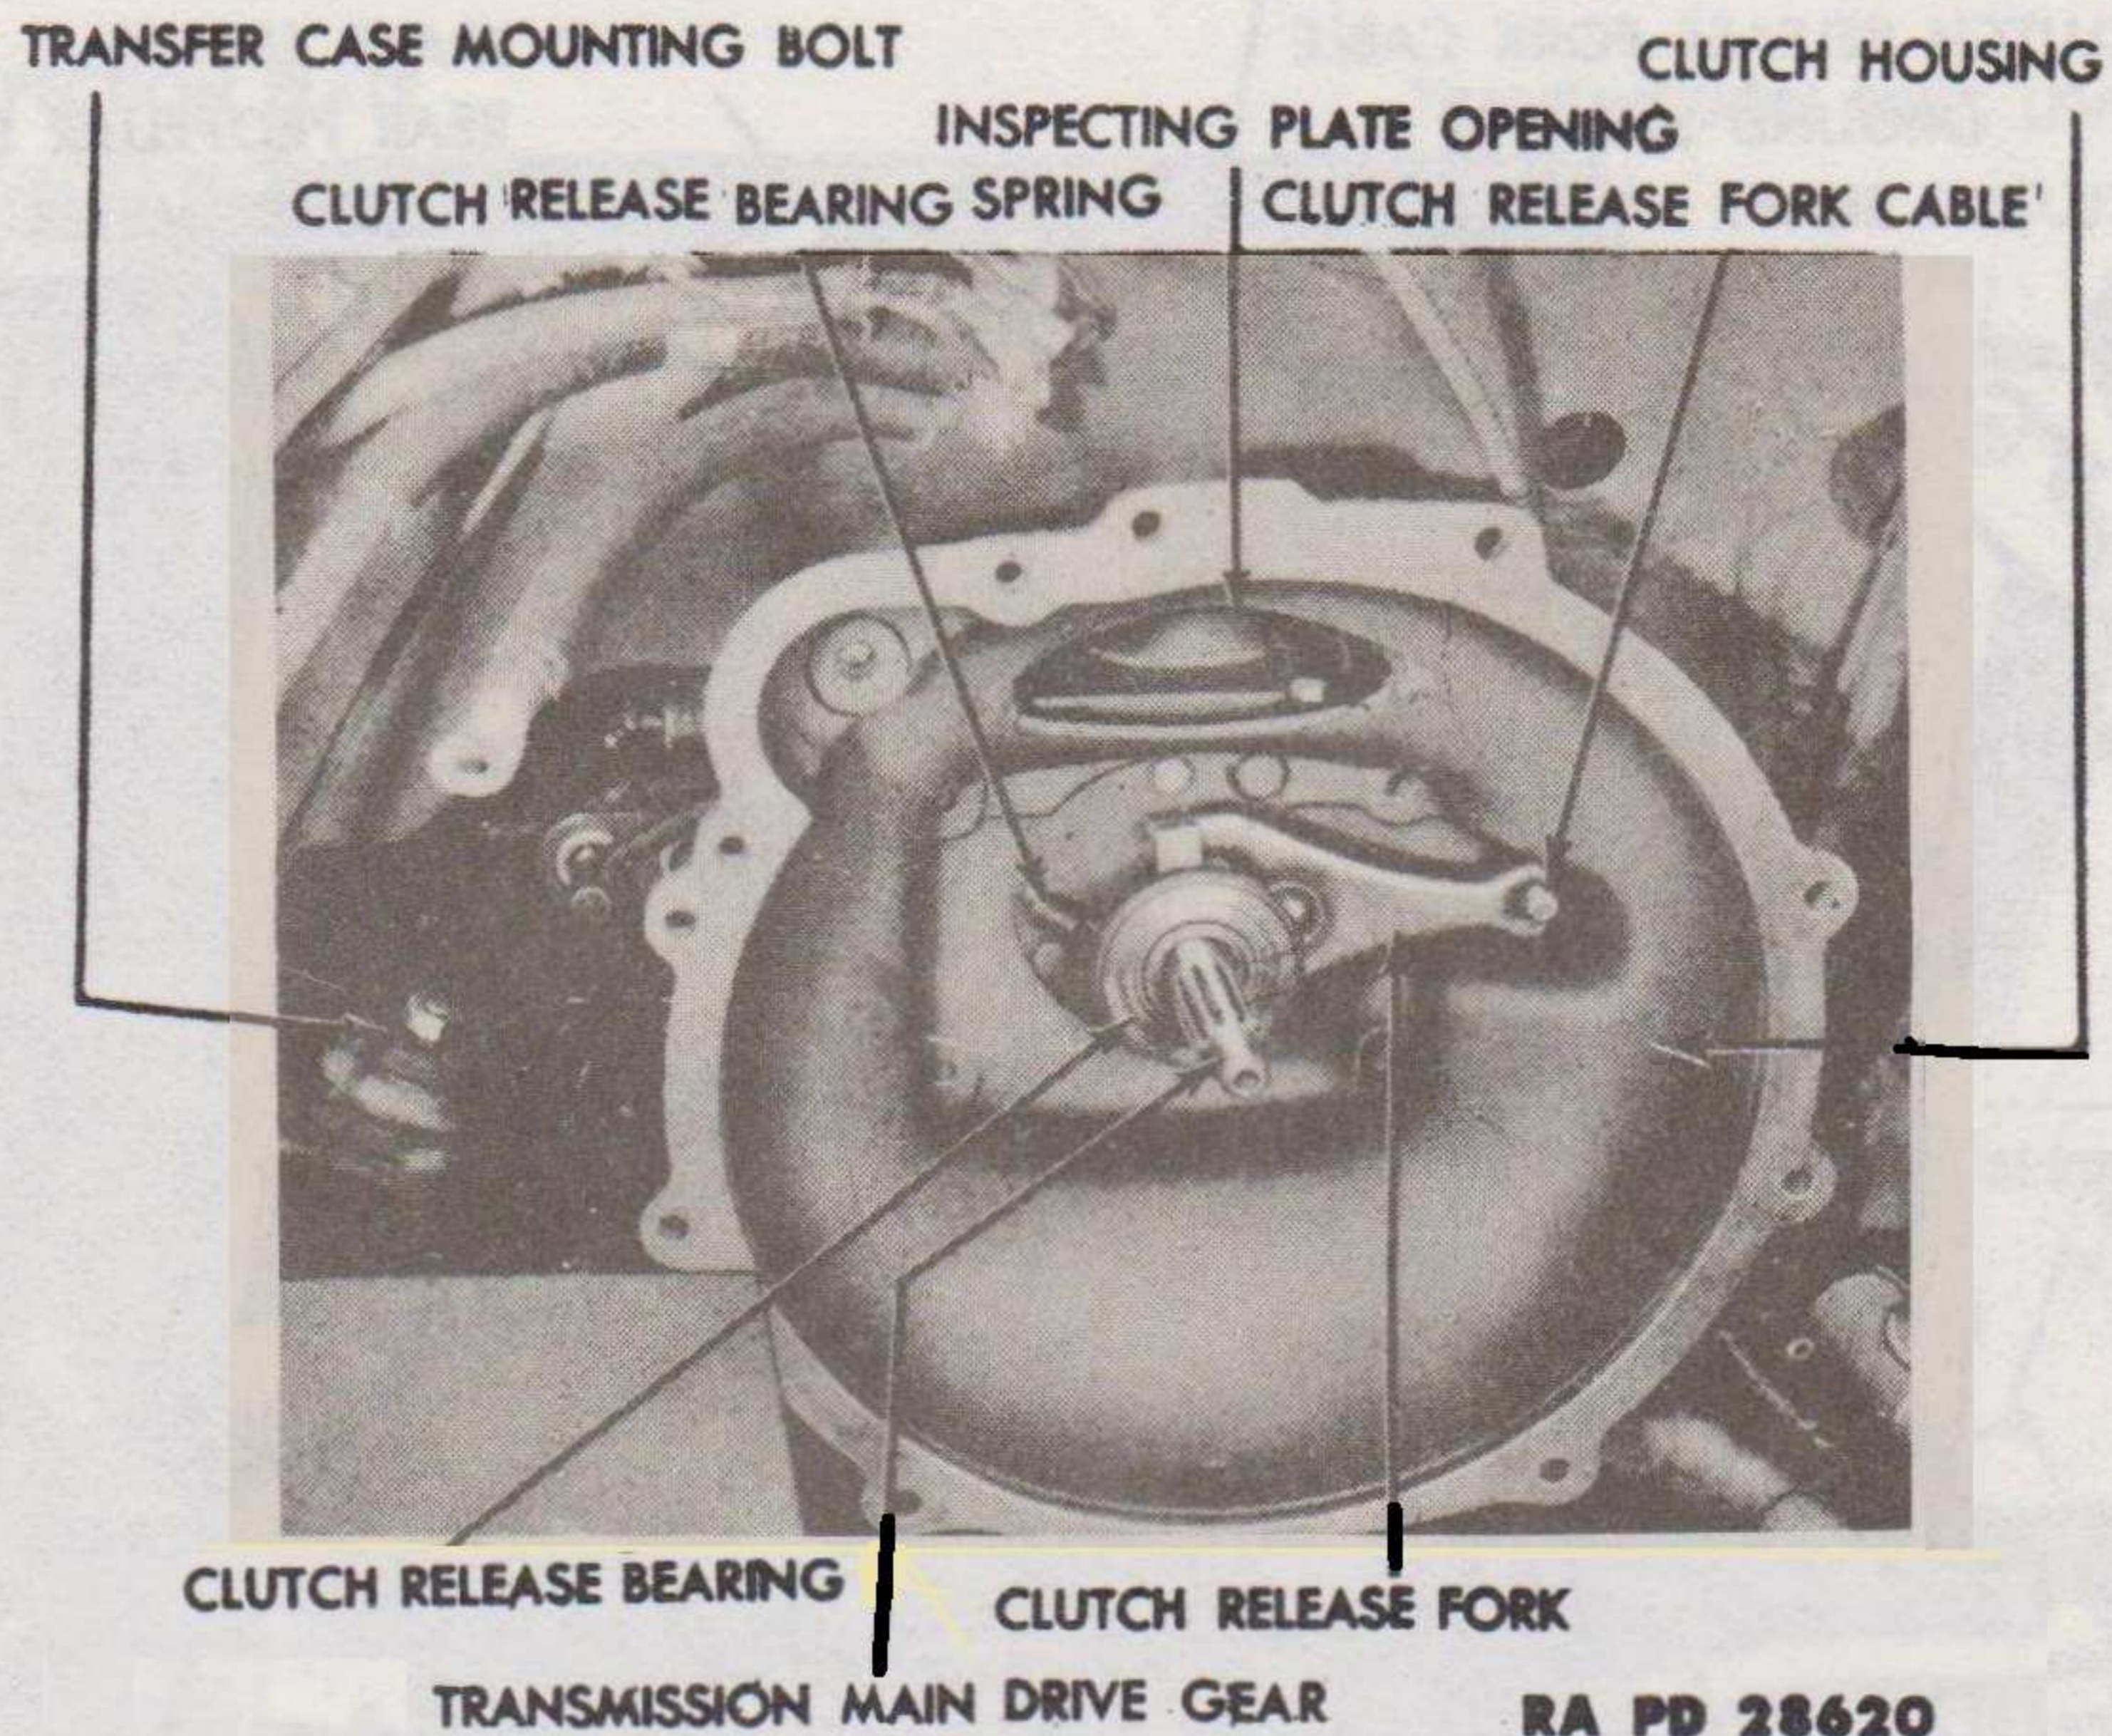

Figure 7 — Clutch Release Fork
g. **Remove Clutch Release Fork** (fig. 7). Working through the inspection plate opening on the clutch housing, remove the clutch cable from the clutch release fork, and remove the clutch release fork from the clutch housing.
f. **Install Clutch Release Fork (fig. 7).** Working through the inspection plate opening on the clutch housing, insert the clutch release fork in the clutch housing. Place the release fork behind the clutch release bearing. Slide the clutch release fork cable in the slot on the opposite end of the clutch release fork. Install the clutch release fork cable to the clutch shaft at the transfer case.